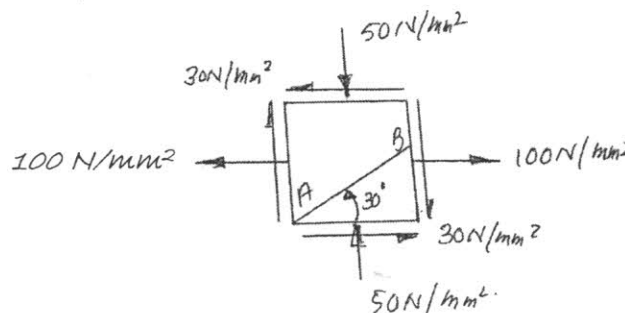

Figure 3 (c)
- c) Calculate normal and Shear stress on the plane AB as shown in Figure 3 (c).